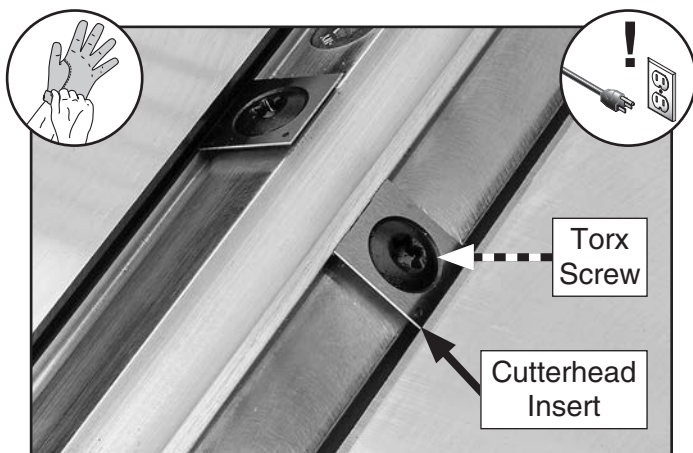

Figure 36. Cutterhead insert and Torx screw.
- Remove cutterhead Torx screw and insert (see **Figure 36**), then carefully clean away all dust and debris from insert and insert surface on cutterhead.